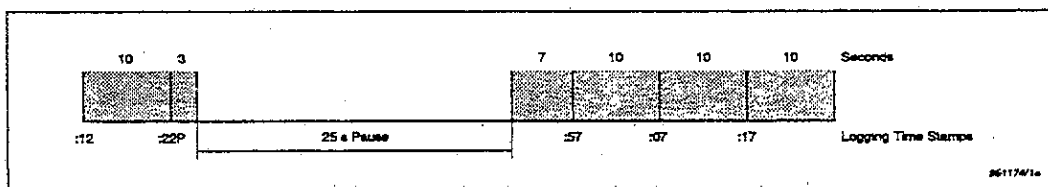

Fig. 5.8 An example of logging times with pause intervals
- When a pause is activated (for example, 3 seconds after a measurement interval has started) the measurement will immediately stop. When pause is deactivated, the measurement will continue and ends when a total of 10 seconds has expired (7 seconds later). This is independent of the duration of the pause. The measurement interval therefore has been broken into two parts with a pause in between (see Fig. 5.8).
- Time periods in which a pause has occurred will be marked with a P in the print-out. For example, the measurement marked :22P in Fig. 5.8.